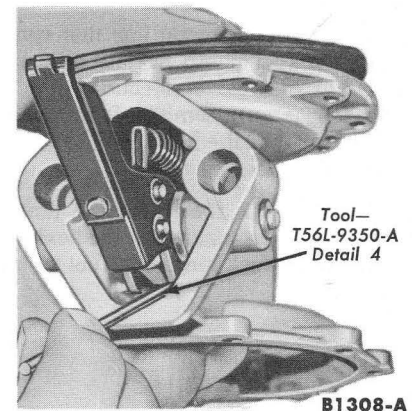

FIG. 5—Diaphragm Installation
9. Assemble the spring seat (cup side toward the spring) and spring on the fuel pump diaphragm rod. Insert the rod through the fuel pump oil seal, and hook the rod slot over the short link (Fig. 5).